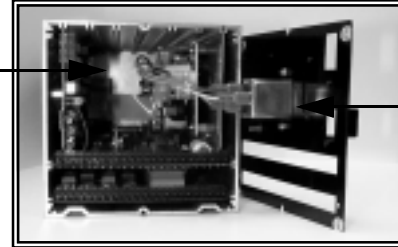

Figure 4
- Slide the PCB assembly carefully back into the extrusion via the guide channels on the extrusion, until the fixing pillars on both sides of the vertically aligned PCBs are in line with the single fixing holes on either side of the extrusion. Ensure that no internal wiring is damaged as the PCB assembly is returned (Figure 4).